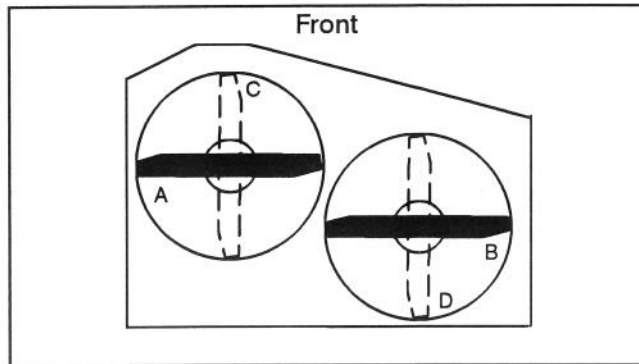
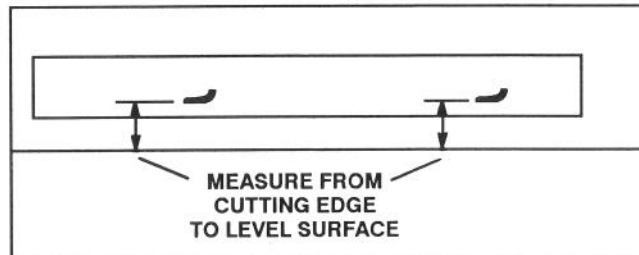

Figure 12
Figure 13
1. Position blade(s) front-to-rear (Fig. 12). Measure at "C" and "D" locations (Fig. 12), from level surface to the cutting edge of blade(s) (Fig. 13).
1. Position blade(s) side-to-side (Fig. 12). Measure at "A" and "B" locations (Fig. 12), from level surface to the cutting edge of blade(s) (Fig. 13).